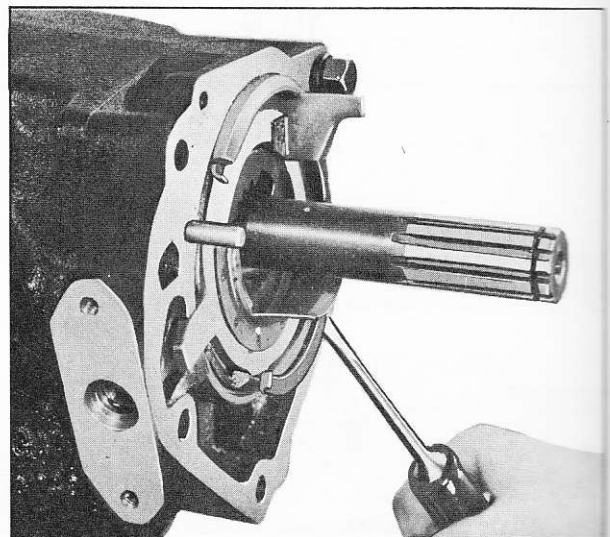
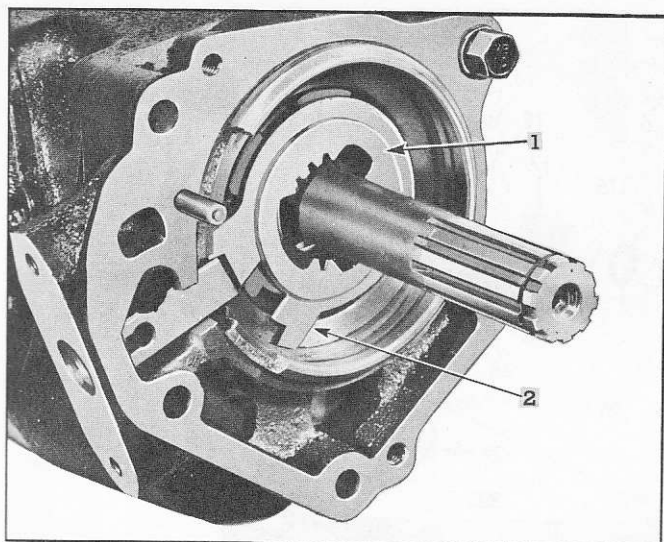

Fig. 11B—Removing Control Plate Retainer Snap Ring
Fig. 12B—Control Plate, Blocker Ring and Pawl Positions for Assembly
6. Remove large snap ring from adapter (fig. 11B) and remove sun gear control plate retainer. Then slide control plate and blocker ring out of adapter (fig. 12B). If control plate or blocker ring is to be replaced they may be separated by pulling blocker ring off plate.
2. If blocker ring was removed from control plate, position ring on plate with flat surface of ring facing out, then start the assembly over transmission mainshaft with ring toward rear. Slide the assembly into position with slot in ring toward sun gear pawl (fig. 12B).